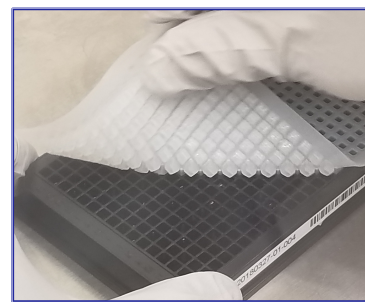

Figure 2
11. Remove the lid and hold the plate firmly from the base. Locate a corner of the sealing mat and peel **slowly** in a diagonal direction across the plate (Figure 2).